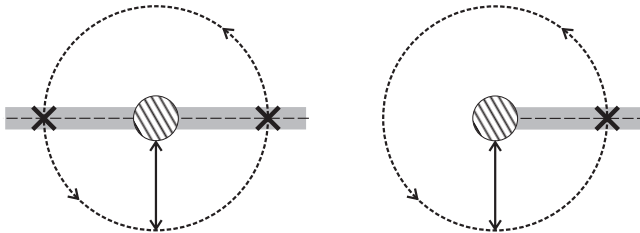

Fig. 31: Passing over a line at a central section of pipe (left) or at the end of the pipeline (right)
2. Move in a circle around the coupling point/**G 100**. Walking in this way usually means that you will pass over the line twice (fig. 31).